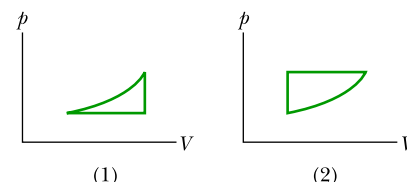

Figure 18.4 Questions 7 and 8.
**7** Figure 18.4 shows two closed cycles on  $p$ - $V$  diagrams for a gas. The three parts of cycle 1 are of the same length and shape as those of cycle 2. For each cycle, should the cycle be traversed clockwise or counter-clockwise if (a) the net work  $W$  done by the gas is to be positive and (b) the net energy transferred by the gas as heat  $Q$  is to be positive?
**8** For which cycle in Fig. 18.4, traversed clockwise, is (a)  $W$  greater and (b)  $Q$  greater?